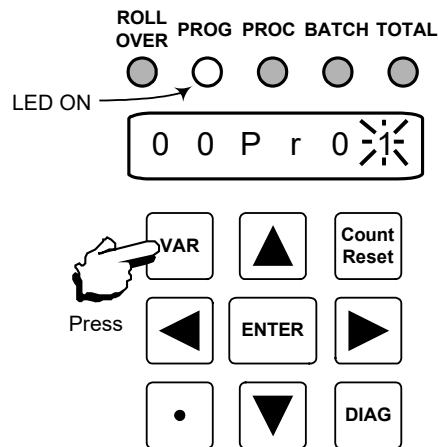

Figure 11: CT6000 Placed in Program Mode Displaying Variable 01
1.	Press the VAR key; the PROG LED will light, and the display will show Pr (Program Mode) and a variable with the 1's digit position flashing. See Figure 11 for a pictorial of this step.